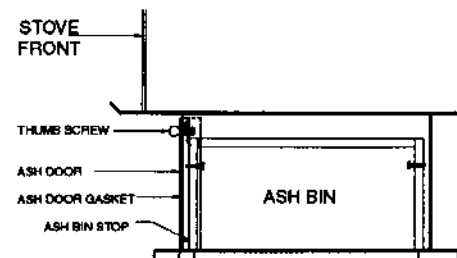

Figure 11
- f. Remove ash pan by turning thumb screws counter clockwise 2 to 3 turns or until they stop (see Figure 11). Ash door will now lay down. Lift ash pan and pull out. (Be careful of ash door gasket.) Dispose of ashes (See 4.0)